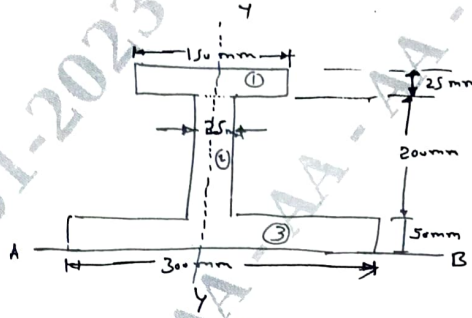

Fig.Q1(b)
- b. Determine the location of the centroid shown in Fig.Q1(b).